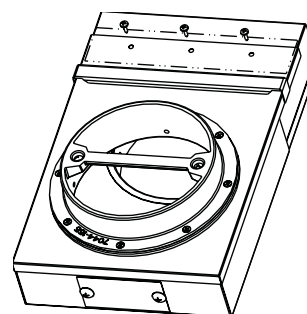

Figure 19.5
4. Cut the gasket to the proper length and slide in between the upper and lower chambers centered on the screw holes. Attach the upper and lower chambers with screws provided. **Figure 19.5**.